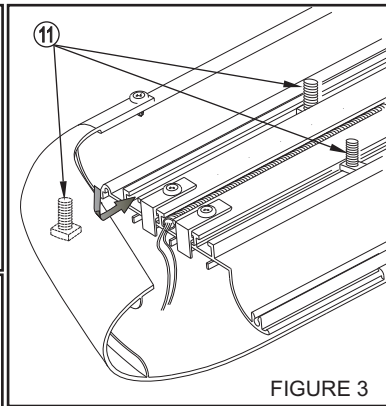
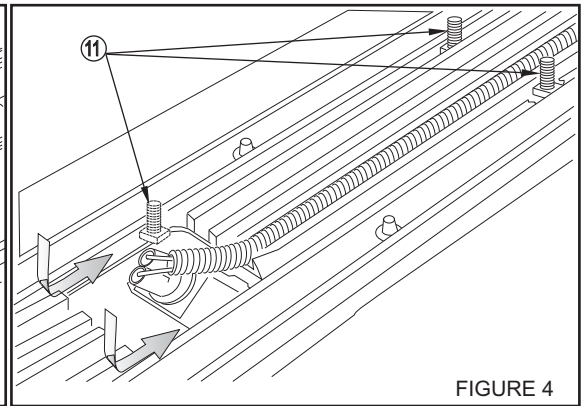

FIGURE 3
FIGURE 4
- STEP 4.** Insert square head bolts as shown (4 per slot, 8 per board). **SEE FIGURES 3 AND 4. NOTE:** For lighted boards, run wiring harness prior to attaching board to brackets (refer to Step 4). Run longer wire harness on passenger side.
HINT: Molded Step Boards: For longevity, check rubber seals before installation. Rubber grommets around red and blue wires going into rear sockets, should be inserted and recessed about 1/4". **NOTE:** Remove bulbs and apply white grease into sockets and replace bulbs. Apply RTV Silicone where lights go into socket. Install lights and run wire loom as shown. **SEE FIGURE 4.** For Sure-Grip Running Boards, run wire loom down center as shown. **SEE FIGURE 3.**